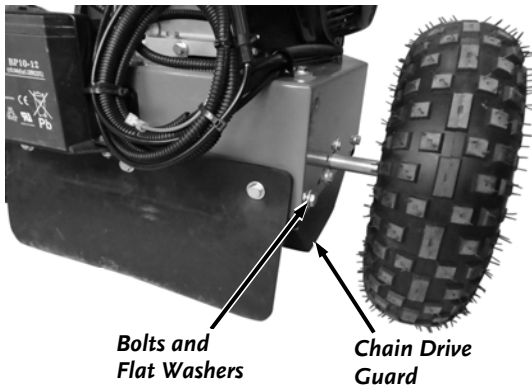

Figure 4
1. Remove the four Bolts and Flat Washers that secure the corners of the Chain Drive Guard to the Frame using a 1/2" Wrench (**Figure 4**). Remove the Guard from the frame and set it aside.